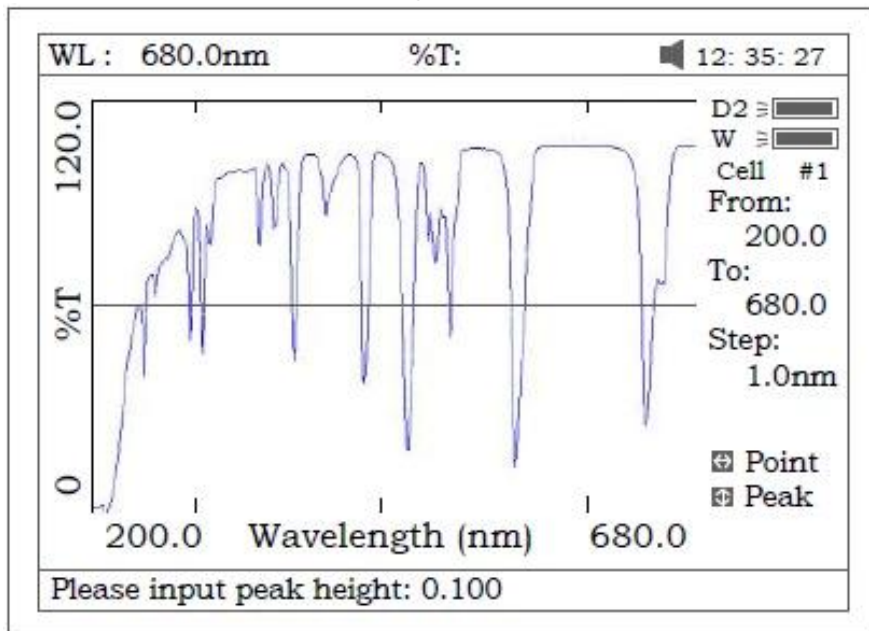
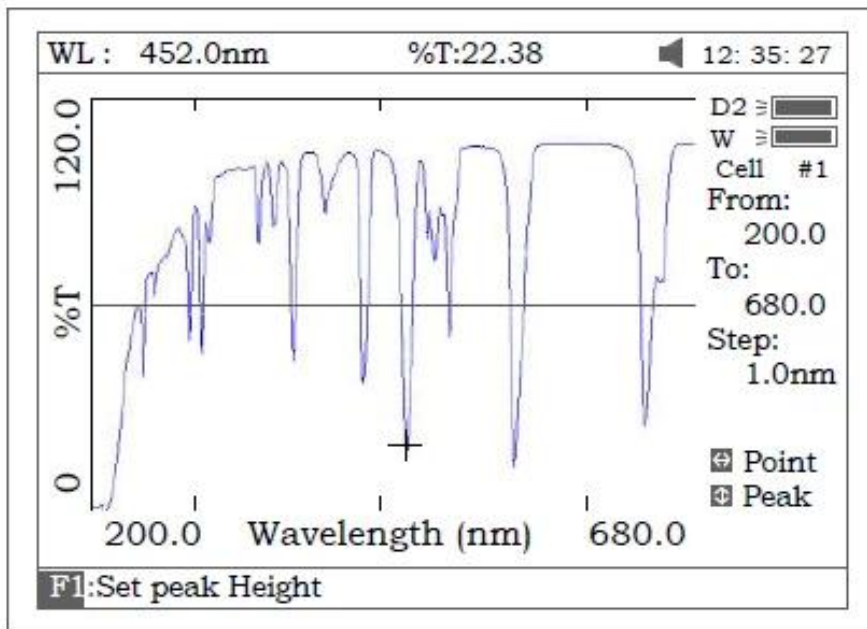

Figure 50
Figure 51
1) Peak to peak, press **【F1】** to set "peak height" and input value by pressing the numeric keypad (Fig 50). Press **【λ】** to search the peak from left to right and press **【v】** to search from right to left. The value of every peak found will be displayed on the screen one at a time (Fig 51).